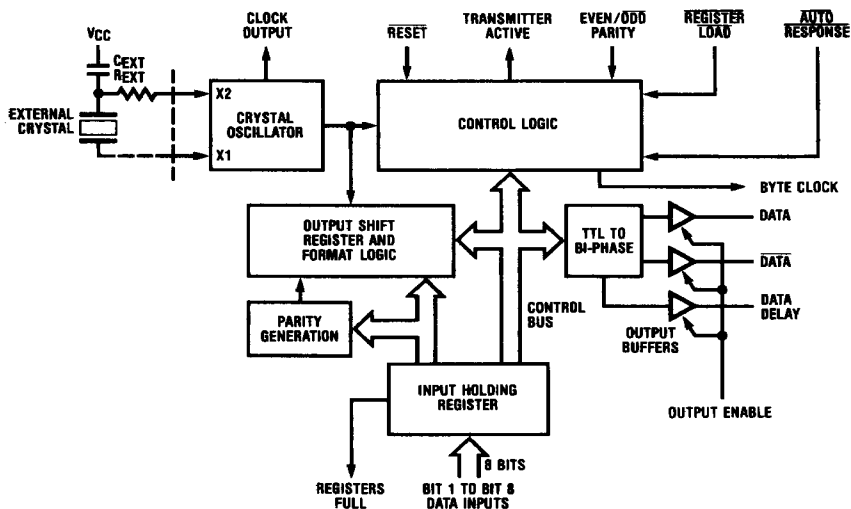

FIGURE 2
Figure 2 is a block diagram of the DP8342/NS32442 Bi-phase Transmitter/Encoder. The transmitter/encoder contains a crystal oscillator whose input is a crystal with a frequency eight (8) times the data rate. A Clock Output is provided to drive the DP8342/NS32442 receiver/decoder Clock Input and other system components at the oscillator frequency. Additionally, the oscillator drives the control logic and output shift register/format logic blocks.